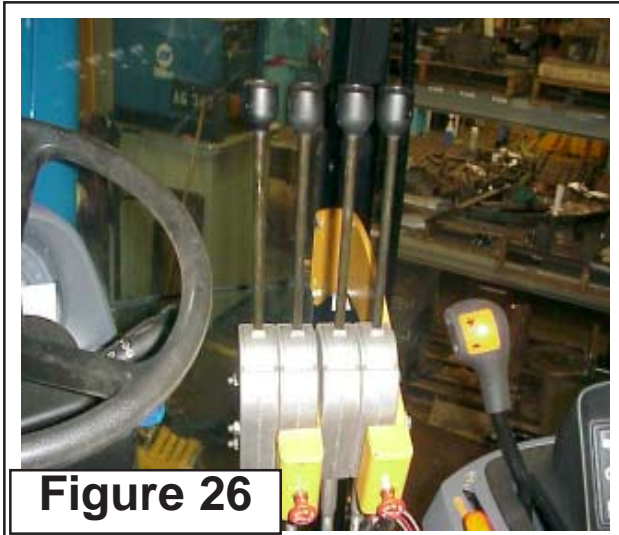

Figure 26
11. The control lever assemblies will bolt together to form a group of handles, there will be 4 handles bolted together along with the switch mounting brackets. (See Figure 26 & 27) The switches will mount to these brackets. Dual Wings models will have two switches. The switch for the left wing mount on the left and switch for the right wing mounts on the right (See Figure 26 & 27). The same two long bolts that go through cable control handles will go through switch brackets.